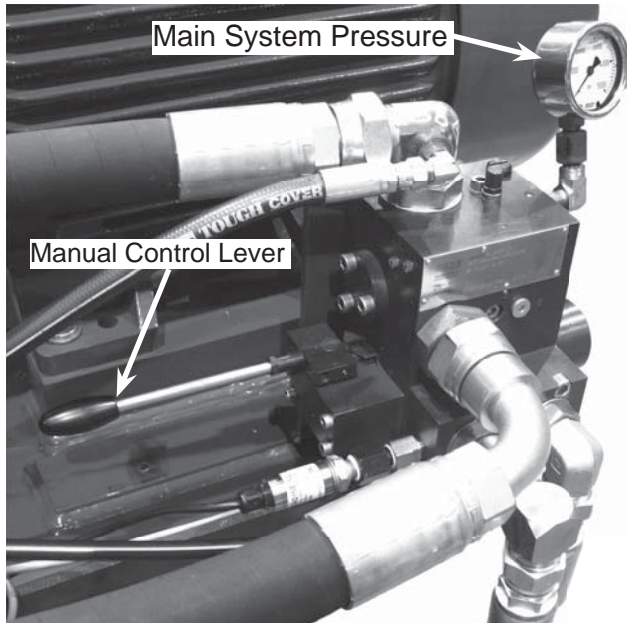

Figure 18 - Directional Valve
Directional Control Valve is for controlling the direction of the plunger (see Manual Operation page 10). The Main System Pressure gauge is located on the Directional Control Valve (see Figure 18). The Manual control Lever can also be used to relieve pressure in the plunger cylinder when the HPU is shut down.
3. Operate lever on directional valve to operate plunger (see Figure 18 page 7).